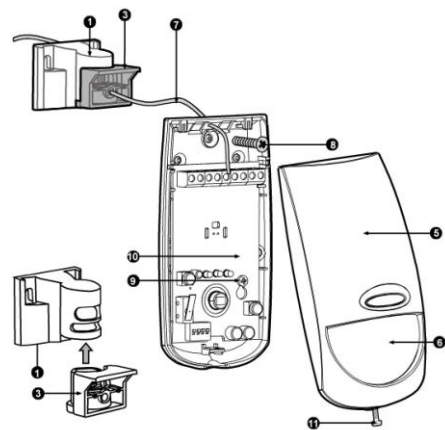

Fig 2 Installazione del rilevatore
1. Remove the front cover by unscrewing the holding screw (Fig. 2-11) and gently raise the front cover. (Fig. 2 -5)